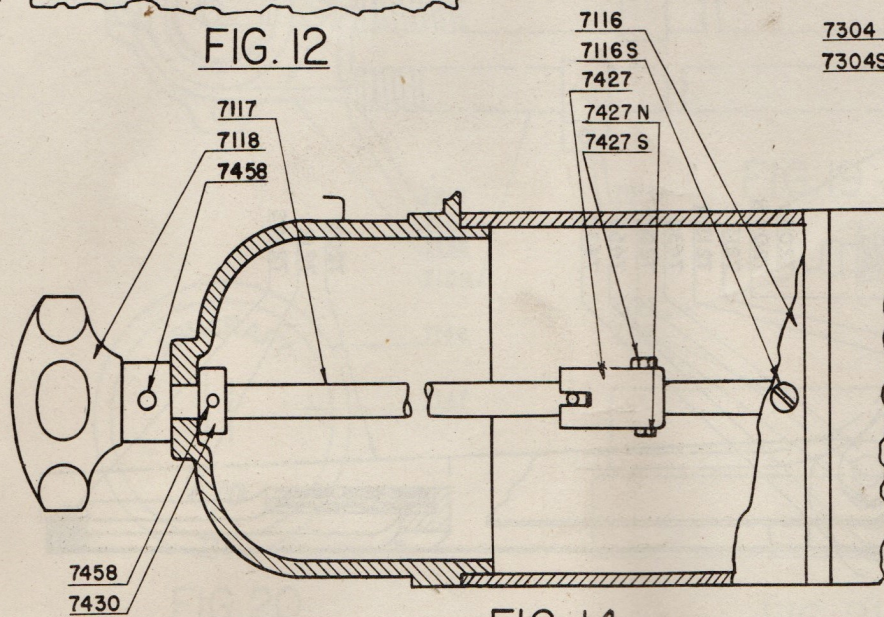

FIG. 14
5. Remove sheet metal cover 7116 Fig. 14 on lamphouse front.